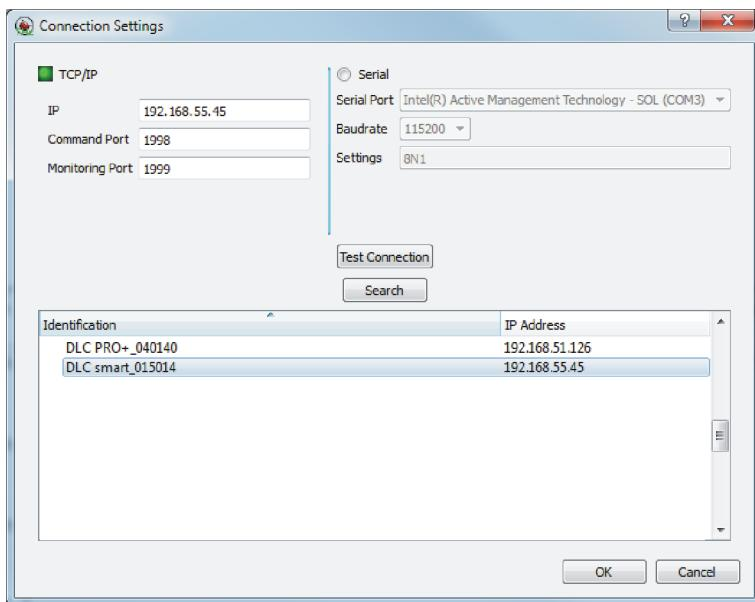

Figure 27 Connection Settings window
5. In the **Connection Settings** window, select **TCP/IP** for control via Ethernet, or **Serial** for control via USB (see Figure 27). If several systems are displayed in the **Identification** field, e.g., as part of a larger network, first select the system that you wish to control. You can then verify whether the connection works properly by clicking **Test Connection**. Click **OK** to save the settings and close the window.